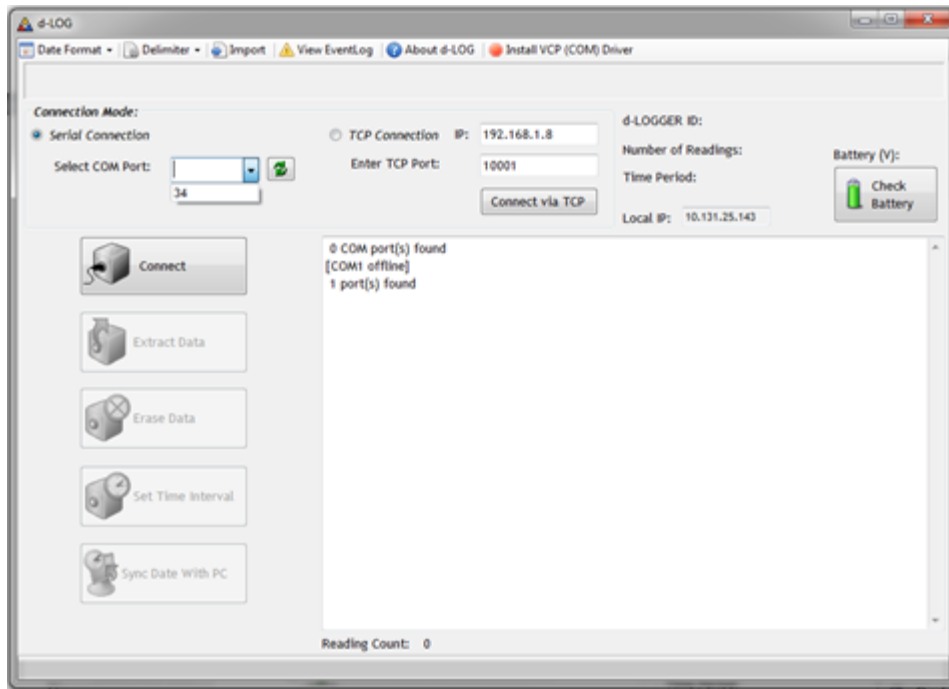

Figure 4: 2 Step COM Port determination for the USB Download cable. In this case the cable is assigned to COM19
- (i) Unplug the USB download cable and click on the green refresh arrows (Figure 4 STEP1). Use the Open COM Port pull-down list to determine pre-existing COM Ports.